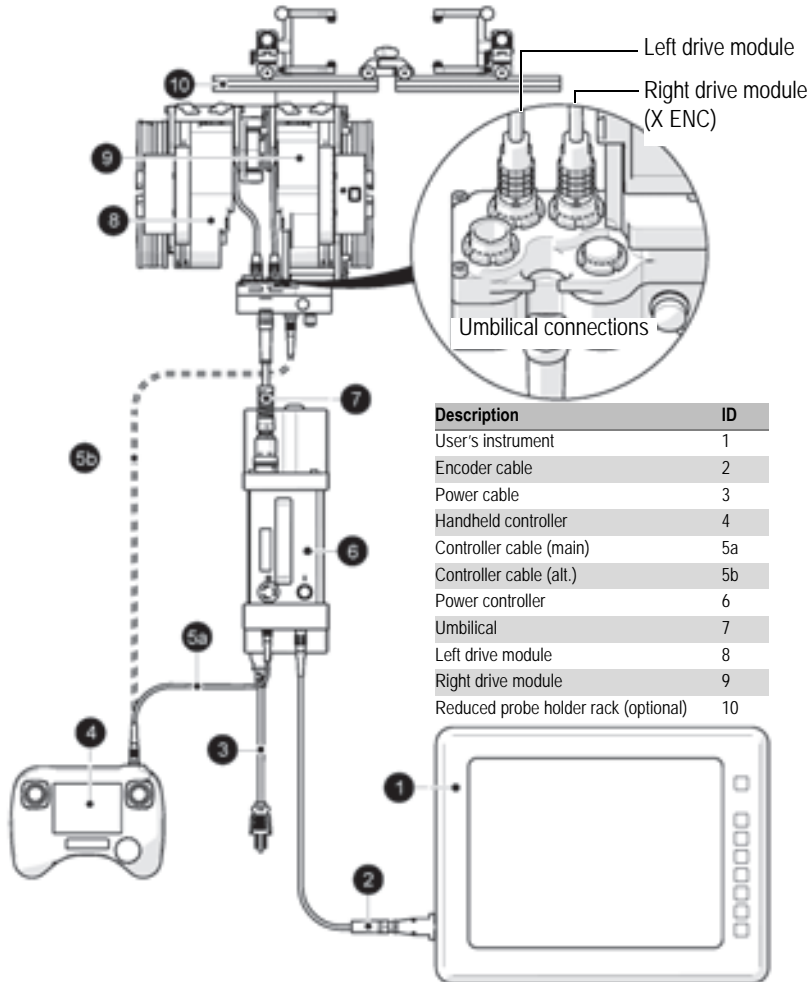

Figure 2-5 Pivoting probe holder rack (optional) configured for flange scanning
1. Mount and connect the umbilical to the right drive module of the SteerROVER (see Figure 2-5 on page 52).